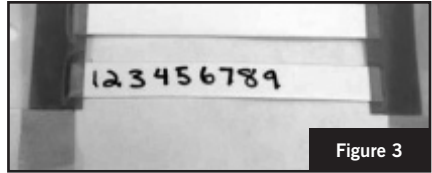

Figure 3
3. Using the supplied heat shrink labeling tube, write 1-9 and cut each number from the heat shrink. (See figure 3)